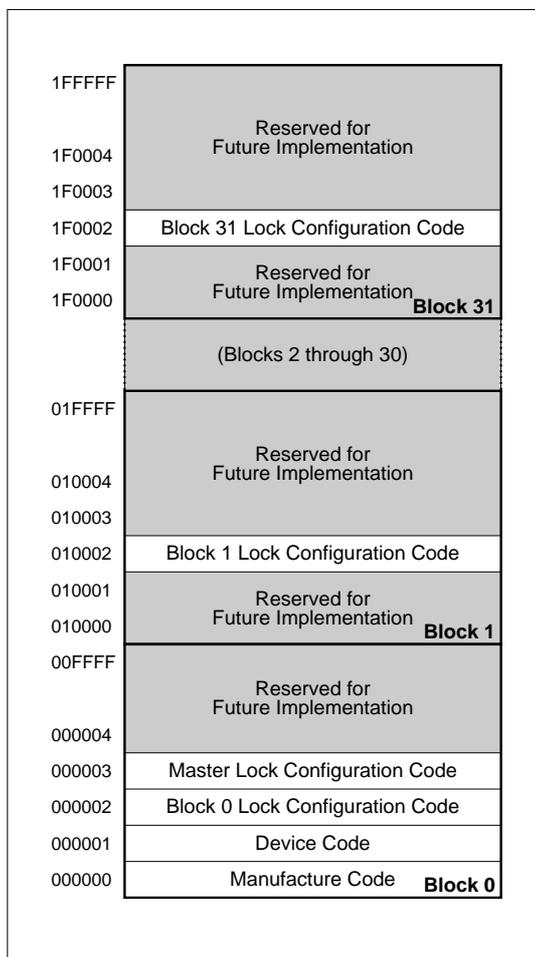

Fig. 2 Device Identifier Code Memory Map
The read identifier codes operation outputs the manufacture code, device code, block lock configuration codes for each block, and the master lock configuration code (see Fig. 2). Using the manufacture and device codes, the system CPU can automatically match the device with its proper algorithms. The block lock and master lock configuration codes identify locked and unlocked blocks and master lock-bit setting.
| Read Identifier Codes | 8 | V_{IH} or V_{HH} | V_{IL} | V_{IL} | V_{IH} | See Fig. 2 | X | (NOTE 5) | V_{OH} |
IA = Identifier code address : see **Fig. 2**.
The identifier code operation is initiated by writing the Read Identifier Codes command. Following the command write, read cycles from addresses shown in Fig. 2 retrieve the manufacture, device, block lock configuration and master lock configuration codes (see Table 4 for identifier code values). To terminate the operation, write another valid command. Like the Read Array command, the Read Identifier Codes command functions independently of the VPP voltage and RP# can be VIH or VHH. Following the Read Identifier Codes command, the following information can be read :
1. X selects the specific block lock configuration code to be read. See Fig. 2 for the device identifier code memory map.